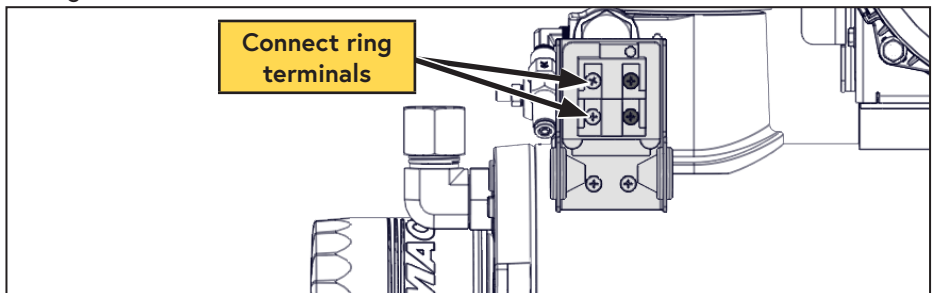

Figure 50 — Connect pressure switch
- Connect the ring terminals from the white wire running from CN3 of the control module, and the grey wire running from the pressure switch harness to the pressure switch on the WHASP Tank (these are not polarity dependent) (Figure 50).